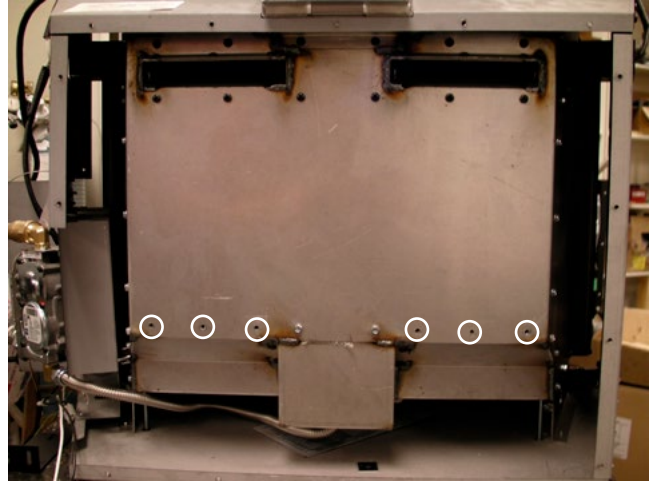

Figure 4
- 4). If installing the fans into a 30FID, remove the six screws highlighted in **Figure 4** and skip **Step 5**. If installing the fans into a 34FID, proceed to **Step 5**.